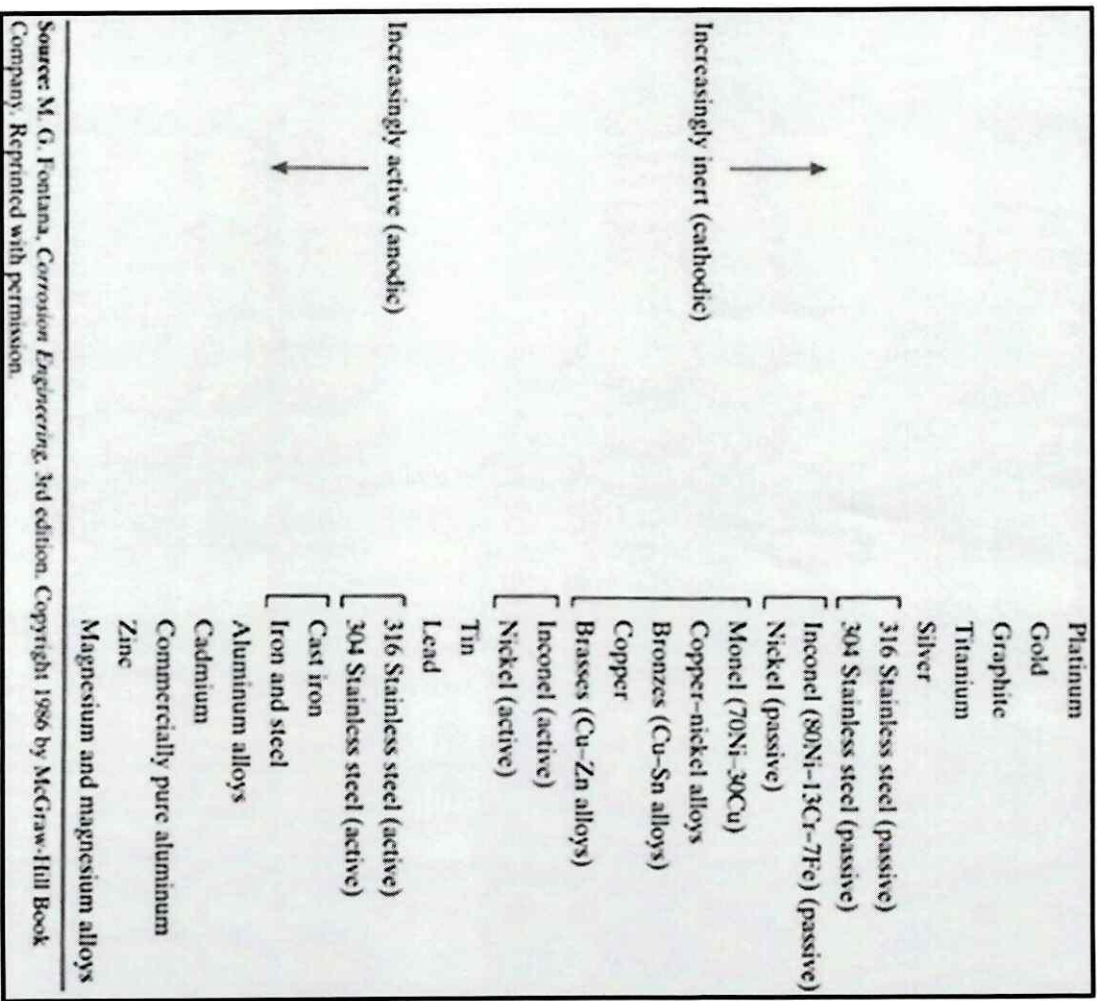

Figure Q5 (b): Galvanic Series
- (ii) For the following pairs of alloys that are coupled in seawater, predict the possibility of corrosion; if corrosion is probable, indicate which metal/alloy will corrode. Refer **Figure Q5 (b)** for assistance.